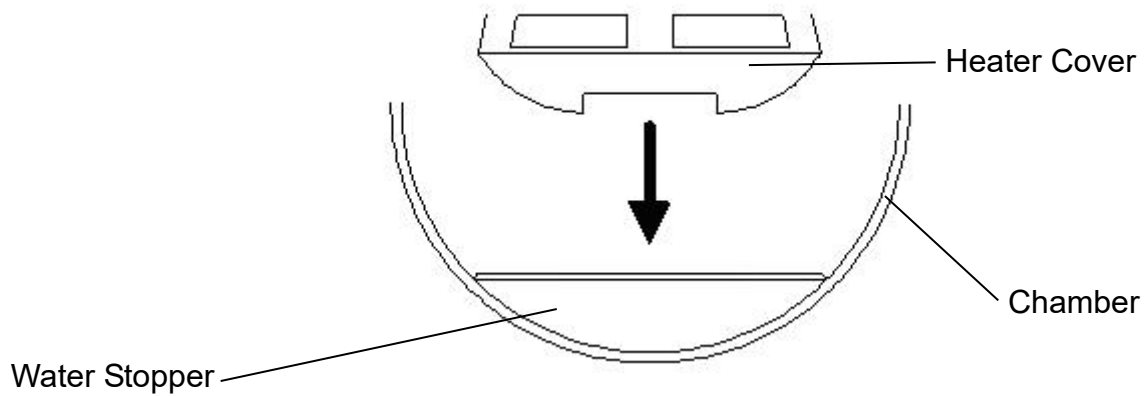

Figure 30 – Heater Cover
- A. Install the heater cover to the chamber as shown in Figure 30 (standard accessory) Ensure the rounded edge is towards the back and the vertical front edge of the cover locates securely into the corresponding slots in the lower part of the chamber opening.